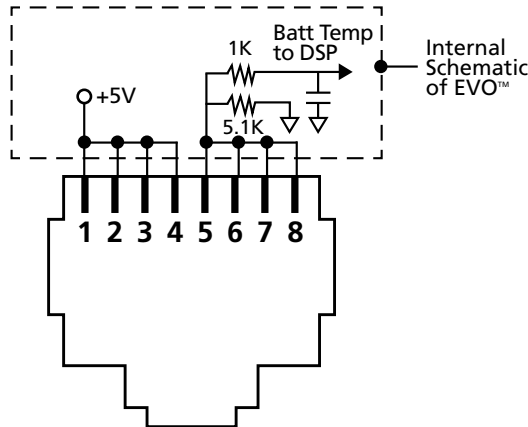

Fig 3.13 Pinout of RJ-45 Jack marked "Battery Temp Sensor" on the front panel of EVO™ [6 in Fig 2.1].
RJ-45 Plug [*2 in Fig 2.5(a)*]: The RJ-45 Plug is required to be plugged into the RJ-45 Jack marked "Battery Temp Sensor" on the front panel of EVO™ (*6 in Fig 2.1*). Pinout of the RJ-45 jack is shown in Fig 3.13.
Pinout of this RJ-45 Jack [marked "Battery Temp Sensor" on the front panel of EVO™ (6 in Fig 2.1)] is shown at Fig 3.13:
- o Connect to any of Pins 1/2/3/4 [Refer to Fig 3.13 for pinout of RJ-45 Jack. Pins 1 to 4 are internally shorted]
- o Connect to any of Pins 5/6/7/8 [Refer to Fig 3.13 for pinout of RJ-45 Jack. Pins 5 to 8 internally shorted]